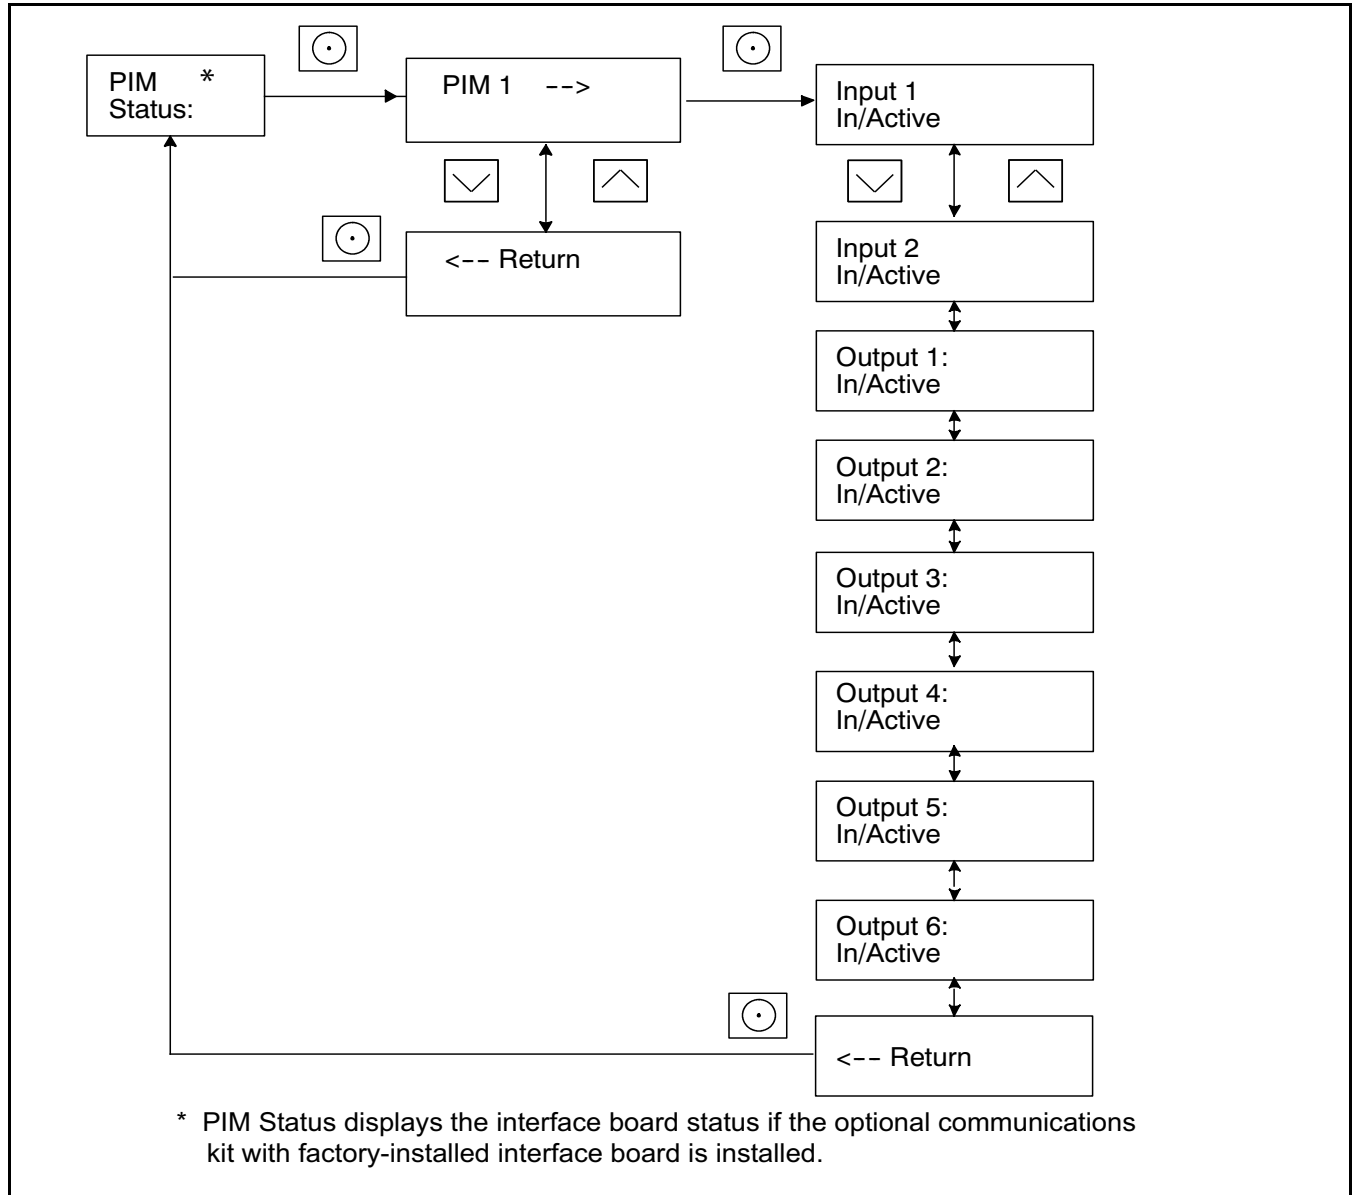

Figure 3-26 Programmable Interface Module (PIM) Status Menu
The PIM status menu displays the status of inputs and outputs connected to the programmable interface module (PIM) or communications kit interface board (IB). See Figure 3-26. This is a status display menu only. Input and output settings cannot be changed from the VSC controller's user interface.